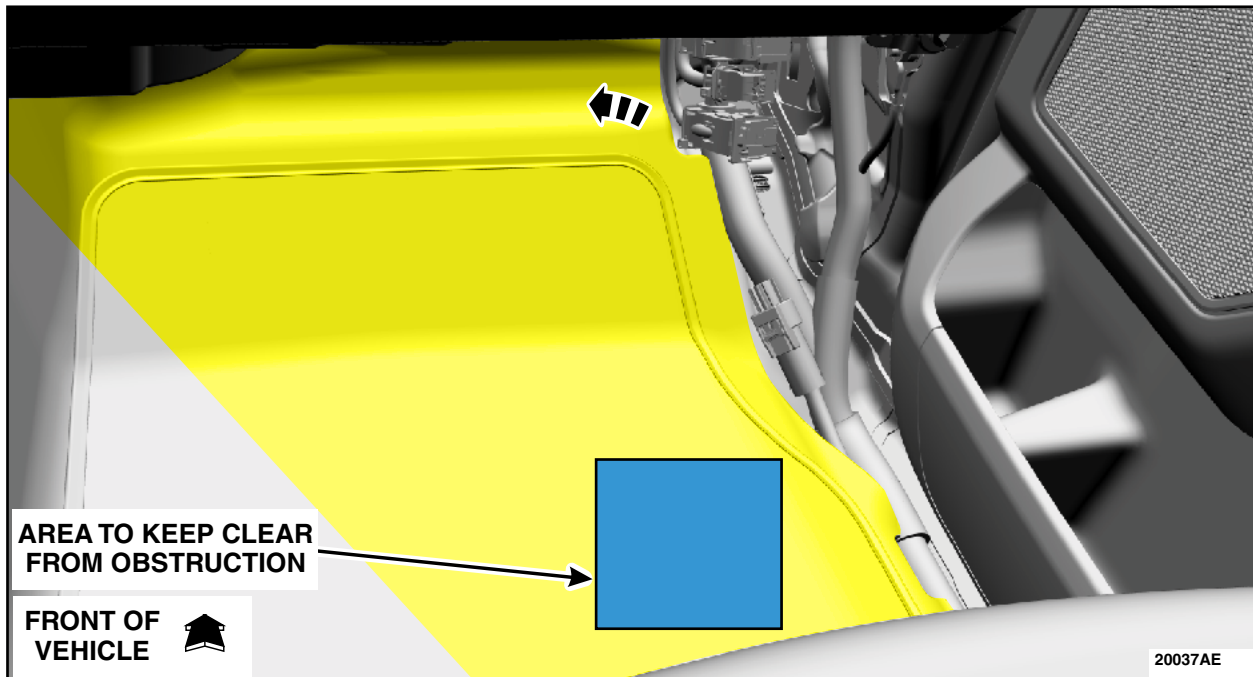

FIGURE 41
60. Position aside the RH front carpet to expose the floorboard. Use a block of wood or similar device to retain the carpet away from the area to be clear of obstruction. See Figure 41.